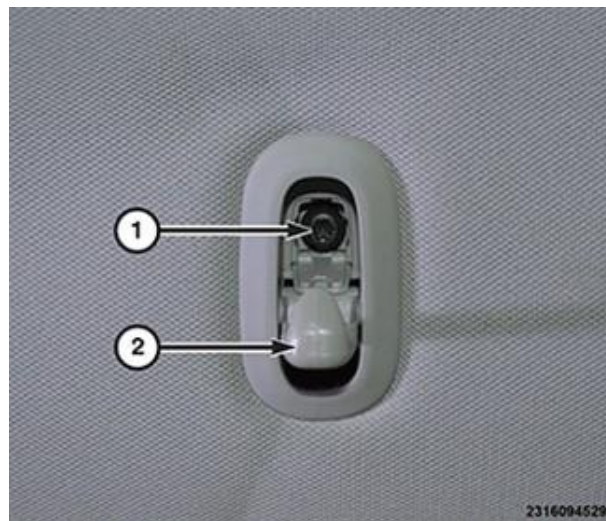

Figure 21 – Coat Hook
47. Open the coat hook, open the screw cover, remove the screw and the coat hook (Figure 21).
74. Position the coat hook to the headliner, install the screw and tighten securely then close the screw cover (Figure 21).